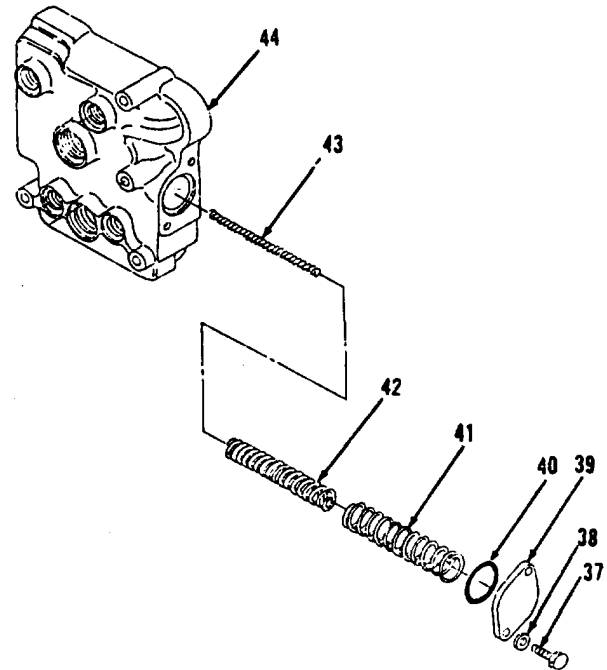

Figure 14-80.
11. Remove two pins (31) from collar (36).
12. Remove two pins (32), retainers (33), springs (34) and check valves (35) from collar (36).
13. Remove two bolts (37), lockwashers (38) and cover (39) from right side of control relief valve (44, Figure 14-80).
14. Remove preformed packing (40) and springs (41 thru 43). Discard preformed pack-ing (40).
1. Install springs (43 thru 41) and new preformed packing (40, Figure 14-80).
2. Install cover (39), two lockwashers (38) and bolts (37).